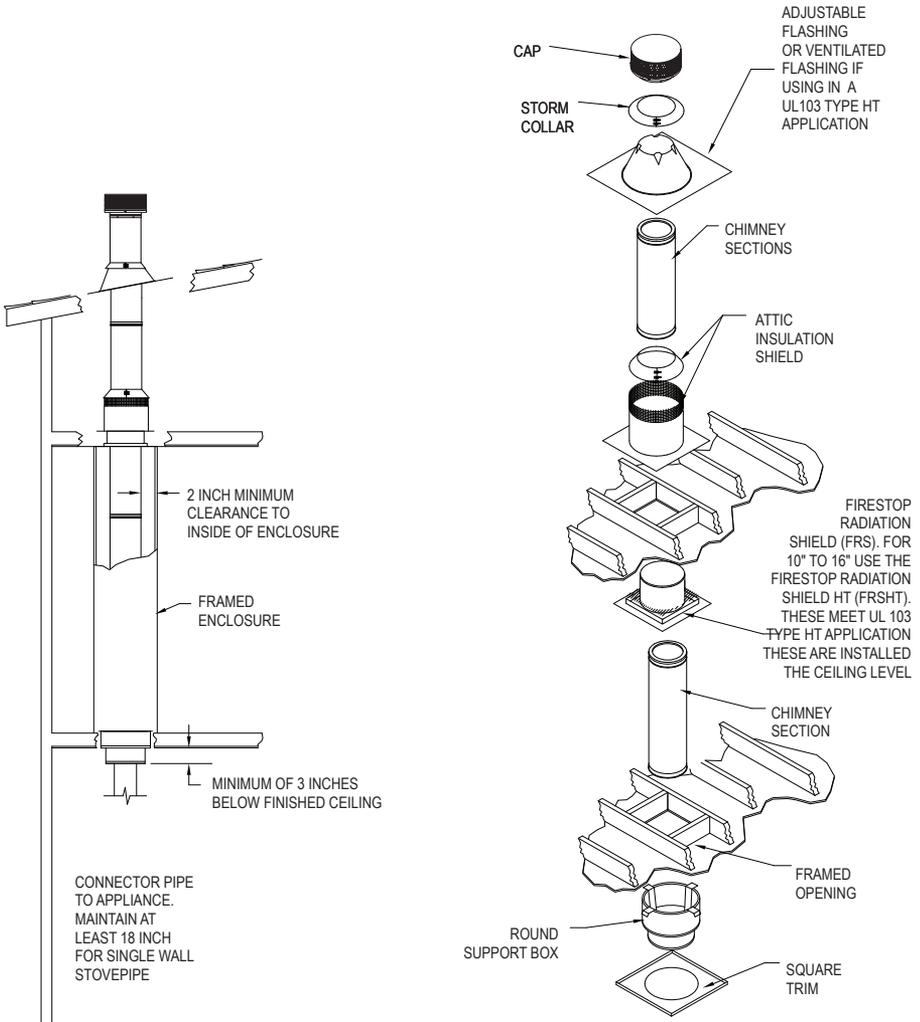

Figure 6
4. Frame Openings: Frame openings in each ceiling or floor above the Support Box (Fig 6). These openings are to hold the Firestop Radiation Shield and Attic Insulation Shield. Locate each opening by dropping a
Example: in a multistory home where the appliance is on the ground floor (Support Box is in the 1st floor ceiling), you would need a Firestop Radiation Shield at the 2nd floor ceiling, and at the 3rd floor ceiling, etc., including where the chimney penetrates into the attic. **Figure 6** shows a typical 2-story installation with an attic.
- c. Slip the Attic Insulation Shield over the Chimney and Firestop Radiation Shield until the base sits squarely on the framed opening (**Fig 6 & 10**).